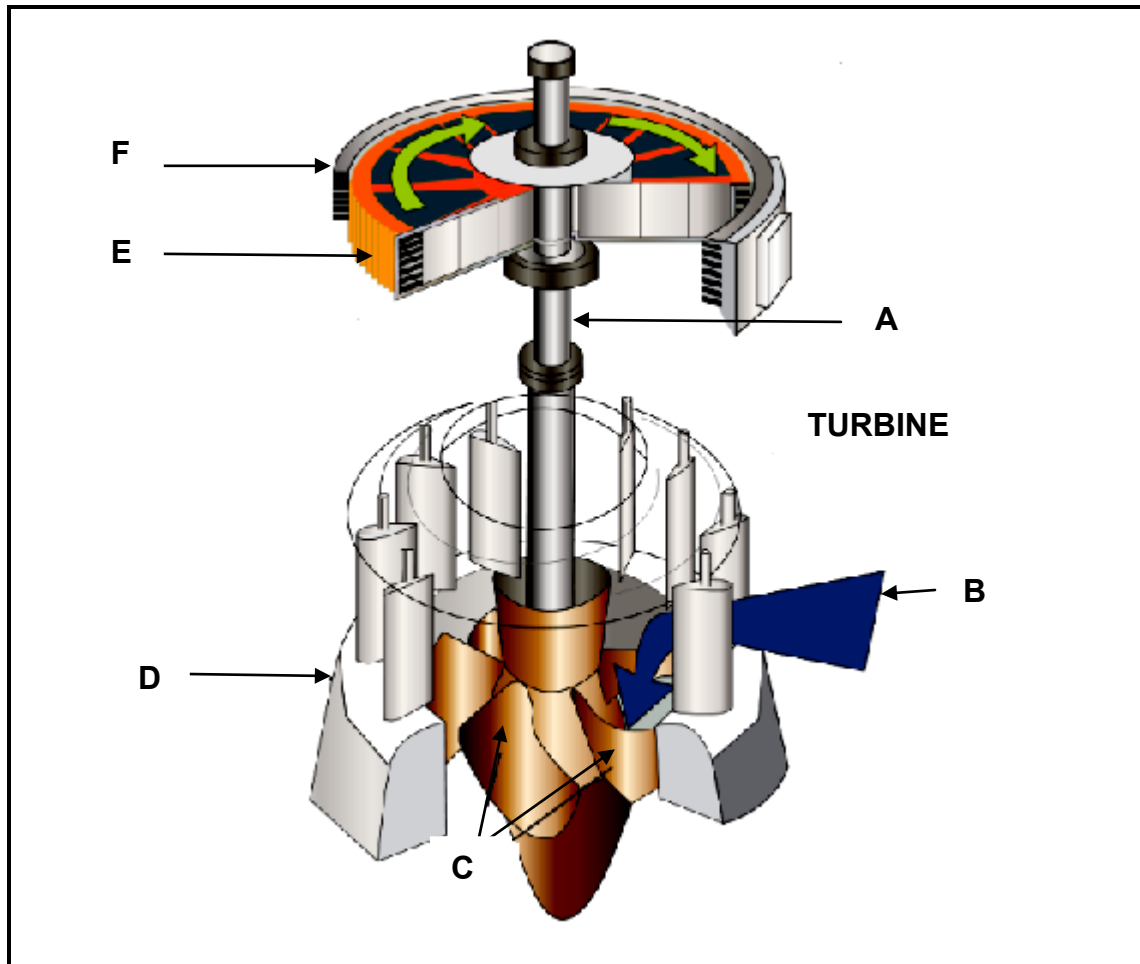

FIGURE 10.1
- 10.1 FIGURE 10.1 shows a water turbine driving a generator. Answer the questions that follow.